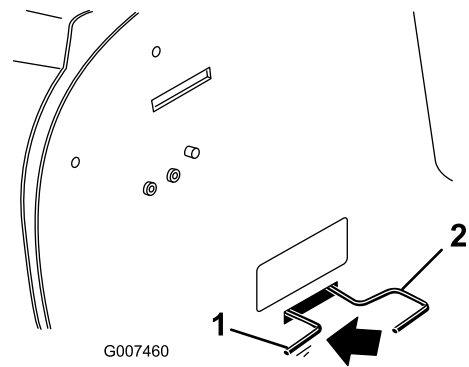

Figure 13
5. Push the drive control rod in and slide it to the left to lock it in place (model 70186 only) (Figure 13).